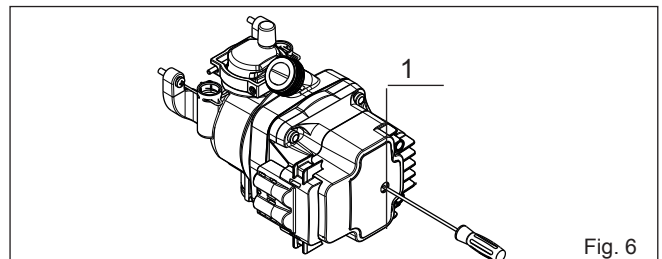

Fig. 6
- with a slotted screwdriver, rotate the shaft being careful not to strain the seat (Fig. 6)